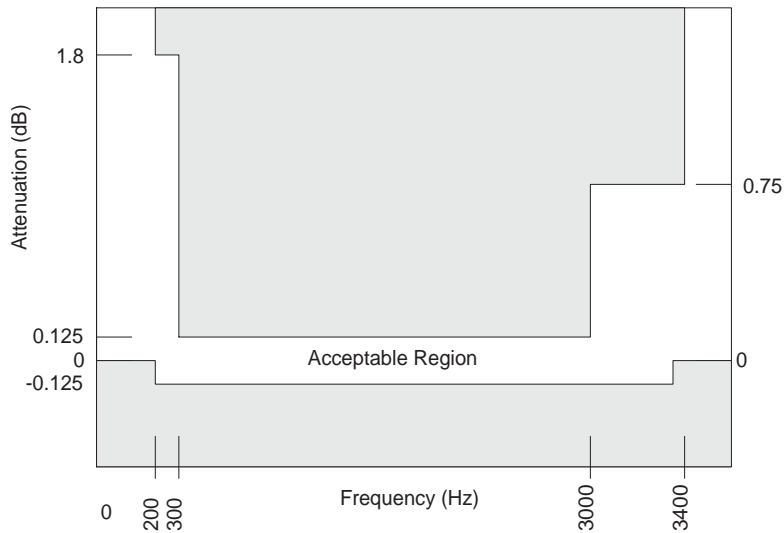
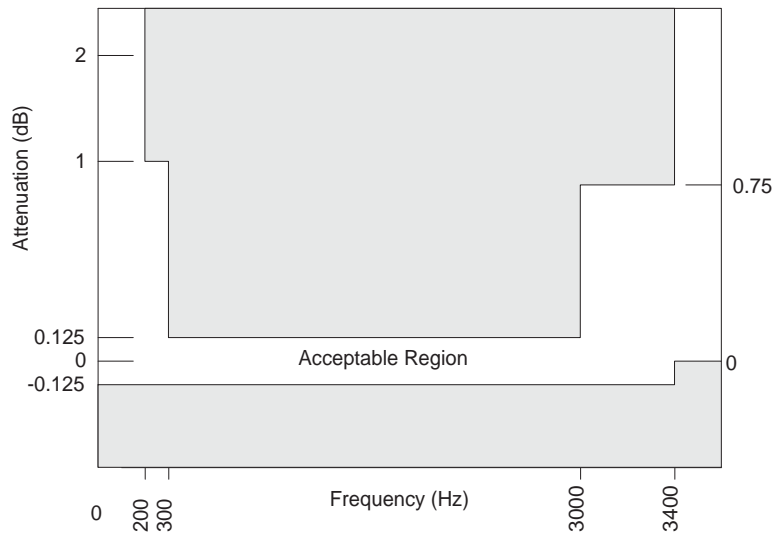

Figure 2 - Transmit Path Attenuation vs. Frequency
Figure 3 - Receive Path Attenuation vs. Frequency
- See Figure 2 and Figure 3.
The signal attenuation in either path is nominally independent of the frequency. The deviations from nominal attenuation will stay within the limits shown in Figure 2 and Figure 3. The reference frequency is 1014 Hz and the signal level is -10 dBm0.